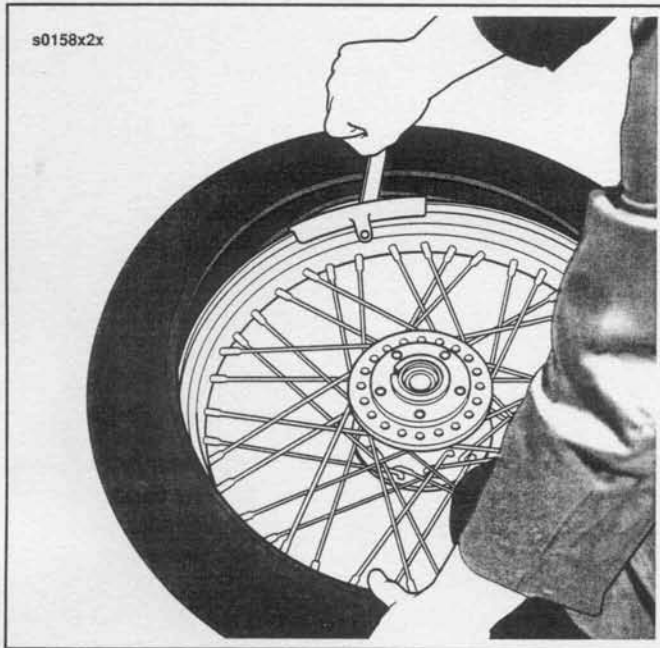

Figure 2-37. Starting Bead on Rim
6. See Figure 2-37. Starting at the valve stem, start the first bead into the rim well. Work the bead on as far as possible by hand. Use the tire tool to pry the remaining bead over the rim flange. If tire has colored dot on sidewall, it is a balance mark and should be located next to valve stem hole.